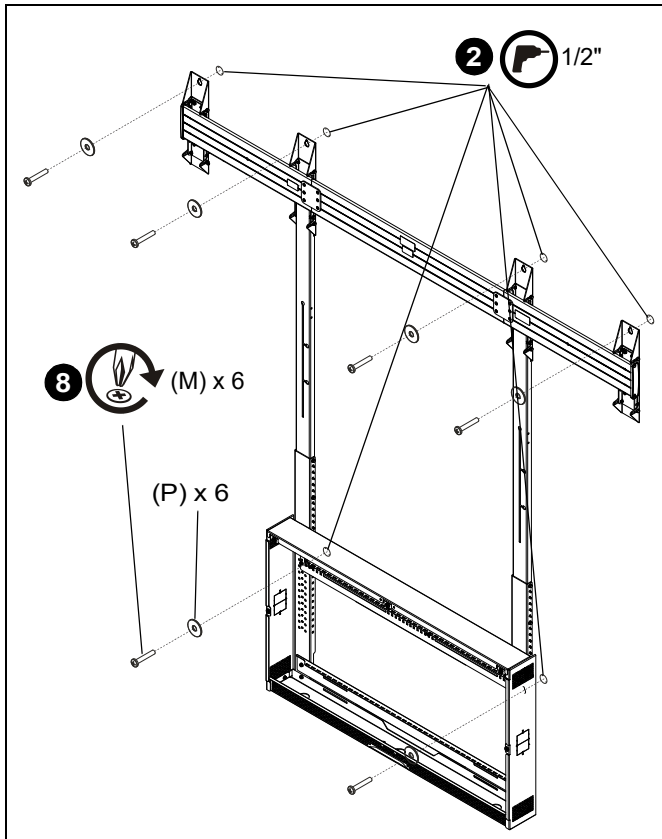

Figure 13
1. Mark hole locations at each mounting location based on locations of bottom uprights and mounting brackets. Use a level to ensure of an even mount. (See Figure 13)
2. Remove the head assembly from the uprights and drill 1/2" holes on marked hole locations. (See Figure 13)
8. Replace the head assembly onto the uprights and use six 1/4-20 x 1 3/4" Phillips pan machine screws (M) and six 1/4" washers (P) to secure mounting brackets and bottom uprights to wall. (See Figure 13)